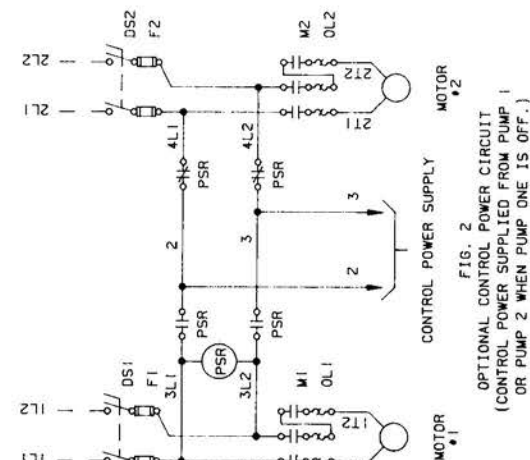

FIG. 1
- DS1 DISCONNECT SWITCH (OR CB1 WITH FIG. 1) OPTIONAL
- DS2 DISCONNECT SWITCH (OR CB2 WITH FIG. 1) OPTIONAL
- DS3 DISCONNECT SWITCH (OR CB3 WITH FIG. 1) OPTIONAL